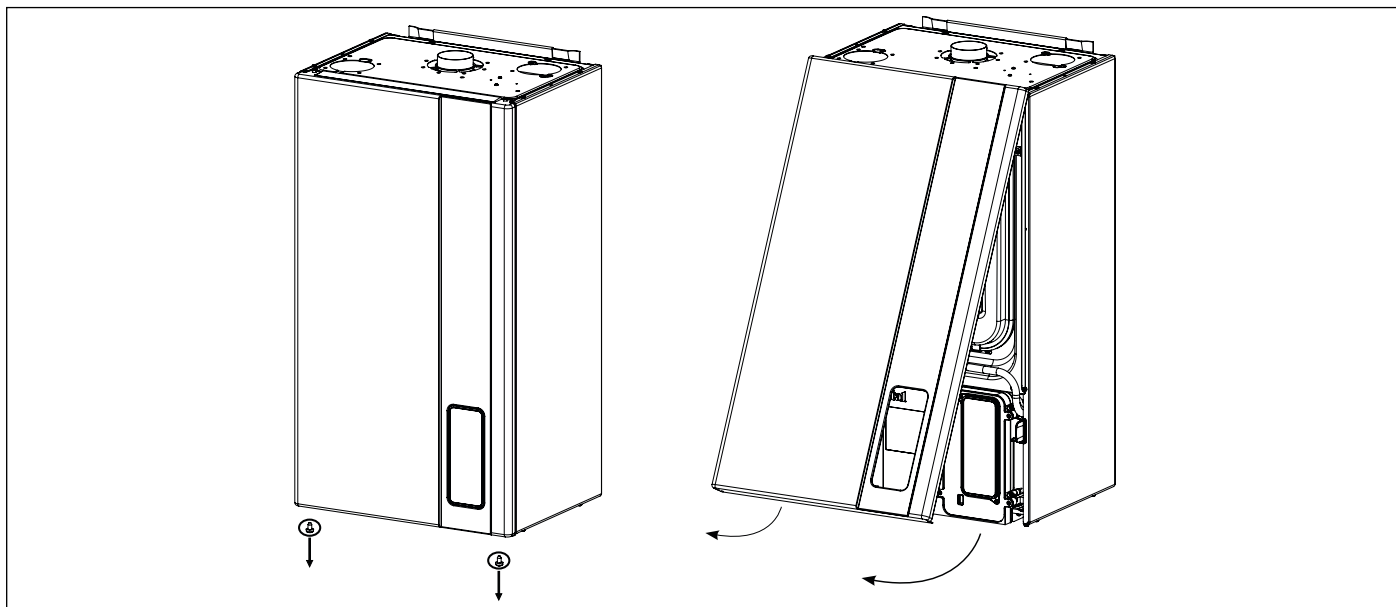

Fig. 43 Front casing opening
- Remove boiler outer front panel (see Fig. 43 Front casing opening).